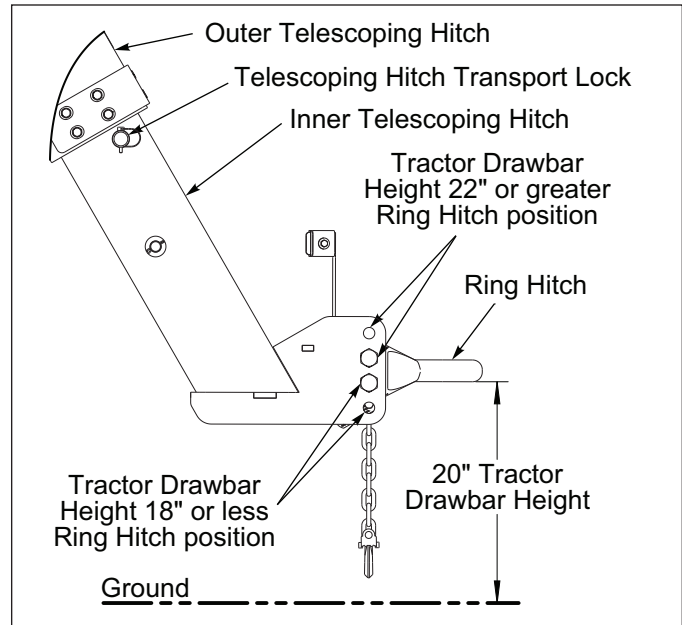

Figure 3-1: Hitch Position
2. On a level surface, measure from the ground to the top side of the tractor drawbar. Adjust the Folding Seeder Ring Hitch to match the drawbar height of the tractor. **See Figure 3-1.** This will allow the Folding Seeder Telescoping Hitch to operate through its most efficient range and level throughout the field during operation.